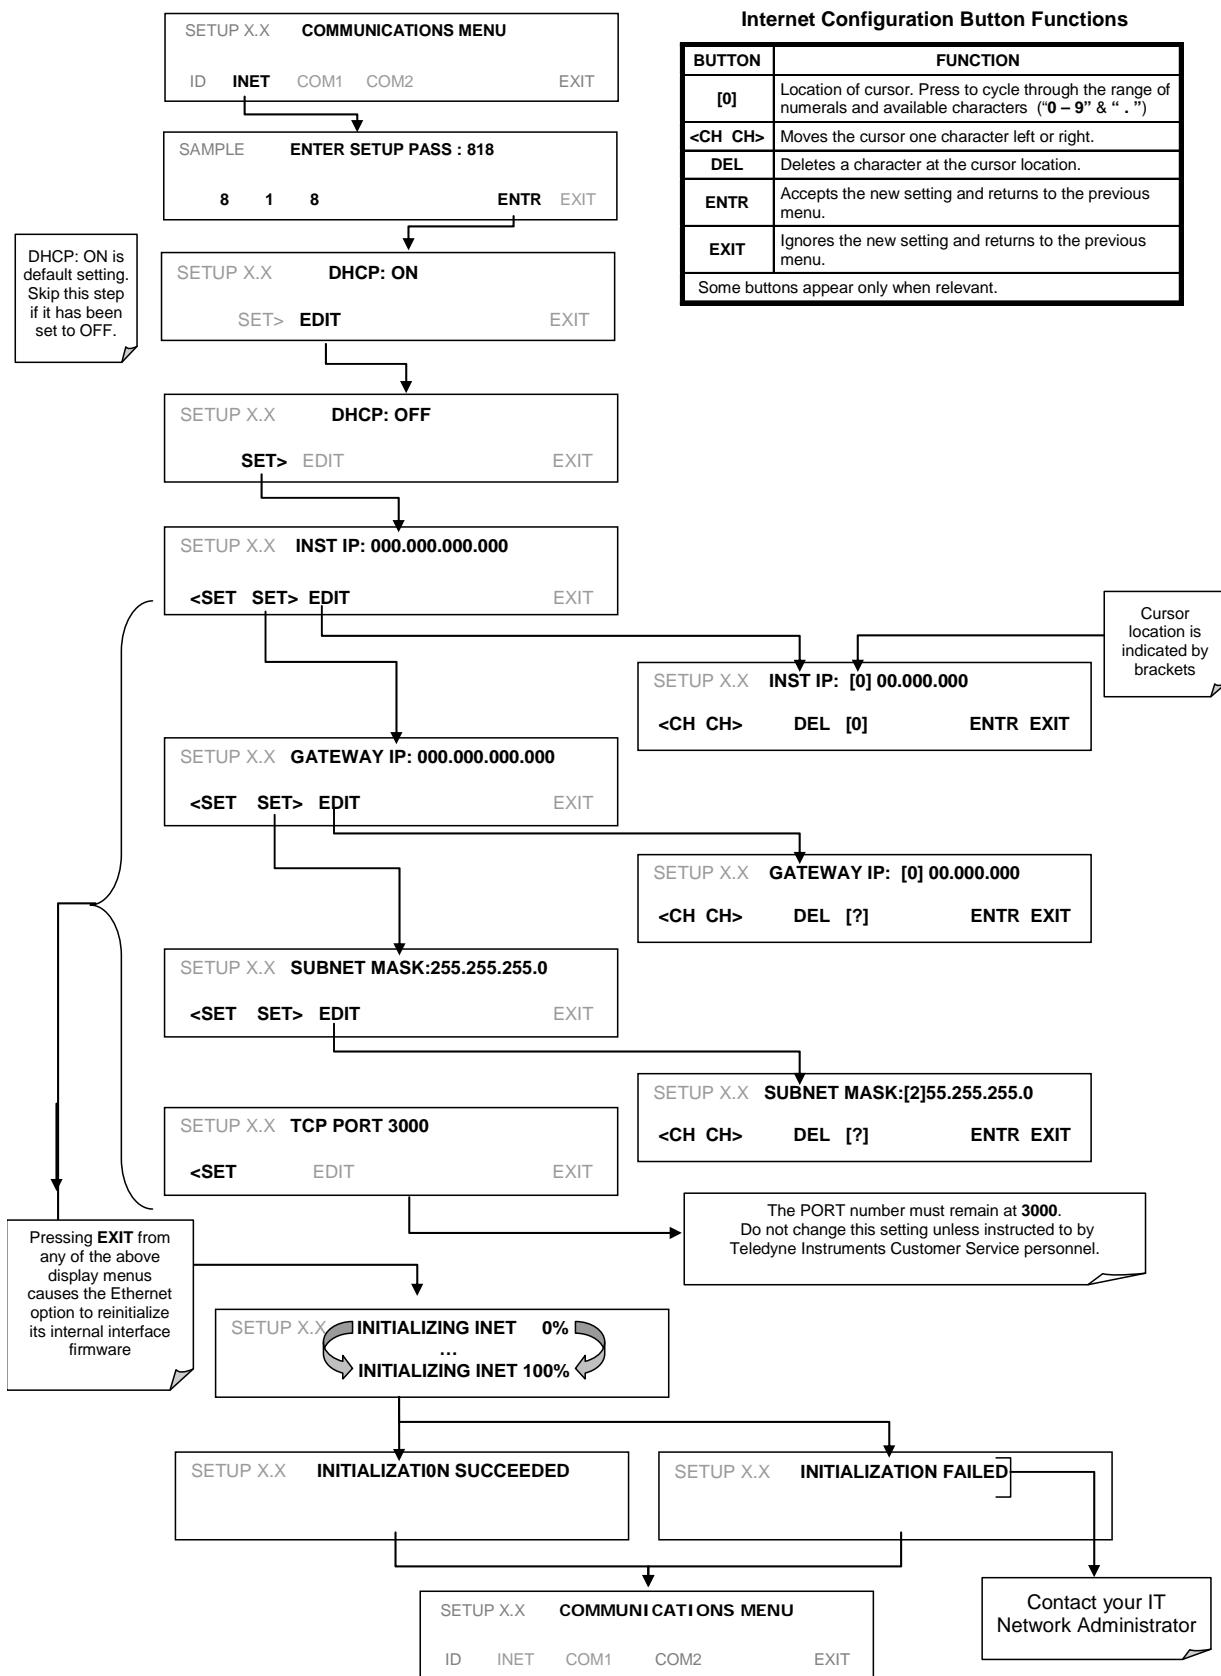

Figure 6-3: COMM – LAN / Internet Manual Configuration
3. Follow the setup sequence as shown in Figure 6-3, and edit the Instrument and Gateway IP addresses and Subnet Mask to the desired settings.